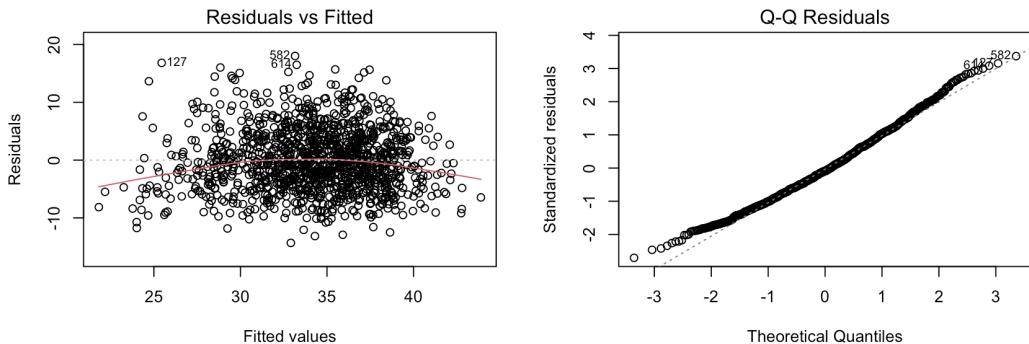

Figure 0.1: Assumption Check for Constant Variation and Normality Model Two
**Normality:** By using the `lillie.test` in R and observing the Q-Q plot in Figure 0.1, a conclusion can be made about the data's normality- it is not normal. The P-value associated with the `lillie.test` is well below 5 percent meaning that we reject the null. The Q-Q plot indicates outliers towards the end and beginning of the observations. This implies non-normality of the data.
**Constant Variance:** The Residuals vs Fitted plot in Figure 0.1 shows an curved variation of the residuals. Towards the middle it levels out slightly but bends at the beginning and end of the observations. This means that the assumption for constant variation is not satisfied. This also supports the conclusion that the residuals diverge from normal.